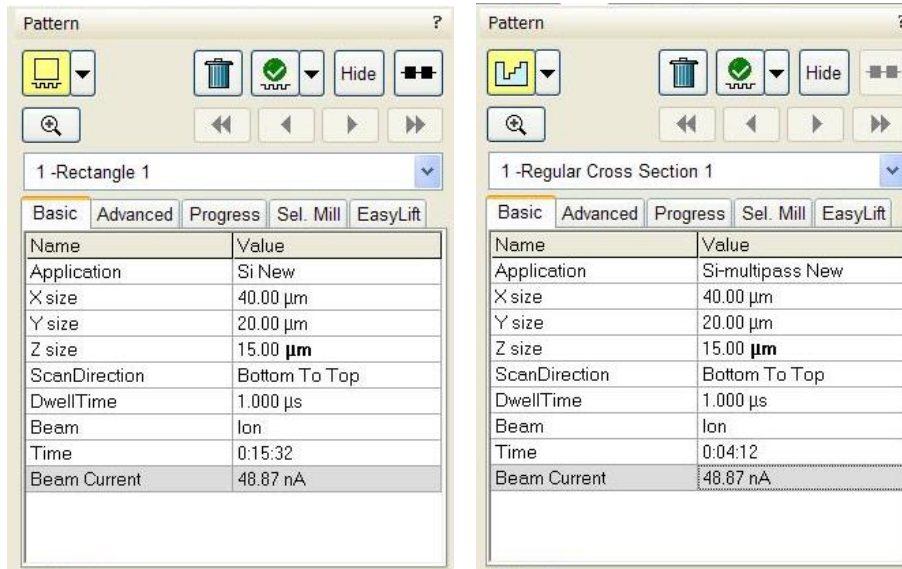

Figure 14
1. Select pattern shape in the pull-down menu of **Pattern** tab (left panel of Figure 14) and draw it in the Ibeam quadrant (pattern should be in yellow color); choose proper parameters in **Basic** and **Advanced** tab in **Pattern** tab (right panel of Figure 14): Application (**Si New** for rectangle pattern, **Si-multipass New** for regular cross-section and **Si-ccs New** for cleaning cross-section), X Y Z size, ScanDirection, etc.